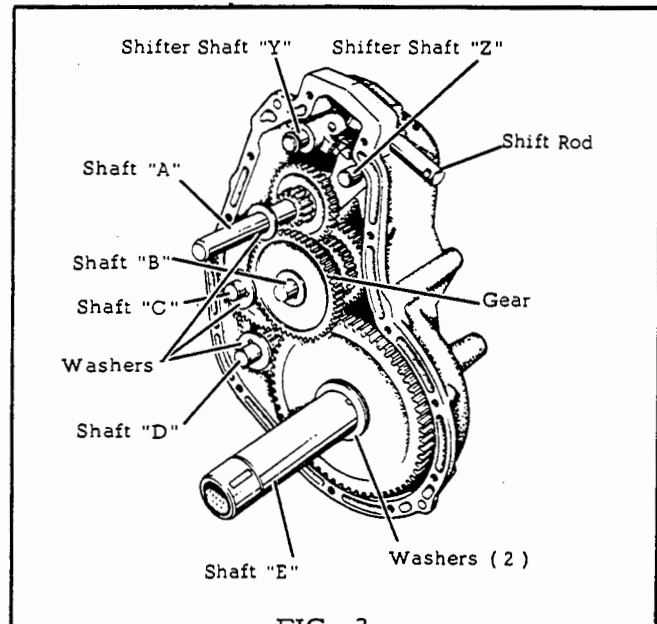

FIG. 2
5. To remove the left rear wheel and hub complete; loosen the locknuts and setscrews "A" and "B" shown in Fig. 2. Setscrew "A" locks against the key located in the axle shaft and setscrew "B" locks into a hole in the axle shaft. It will be necessary to loosen "B" until the screw is free of the hole in the axle shaft. If necessary, tap the edge of the wheel hub with a lead mallet to loosen from the axle shaft.
3. Remove the flat washer from shaft 'A', shaft 'C', and shaft 'D'. Now remove the gear from the end of shaft 'B'. Remove the axle tube and gear assembly 'E' from the transmission case. See Fig. 2.